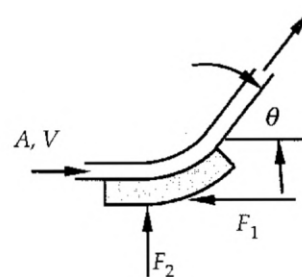

FIGURE P2.37.
37. A two-dimensional liquid jet is turned through an angle θ ($0^\circ < \theta < 90^\circ$) by a curved vane, as shown in Figure P2.37. The forces are related by $F_2 = 3F_1$; Determine the angle θ through which the liquid jet is turned.